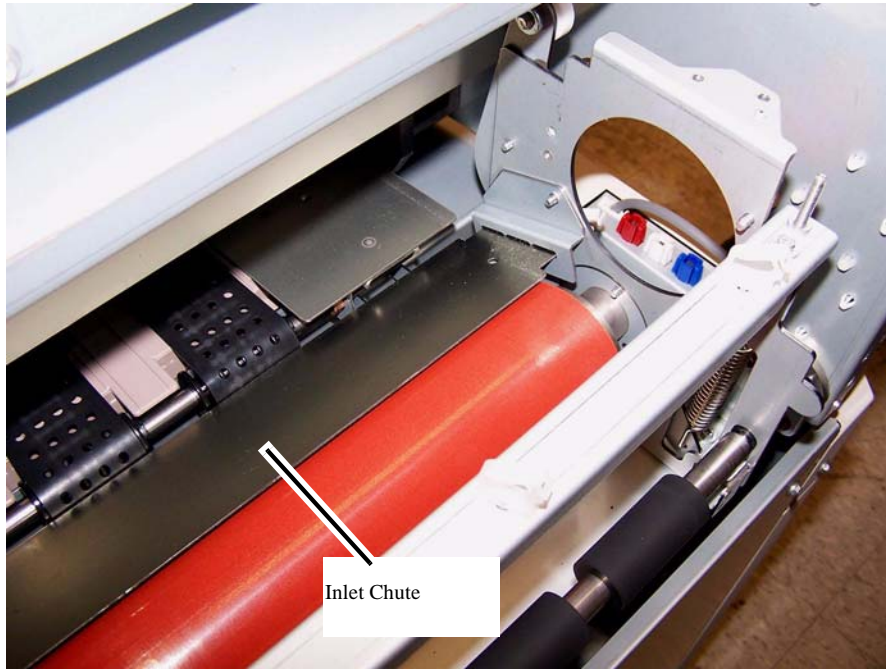

Figure 4 Inlet Chute location (shown prior to removal of Pressure Roll end components)
5. Lift the Pressure Roll out of the machine, being careful to avoid contact with the Inlet Chute (Figure 4).